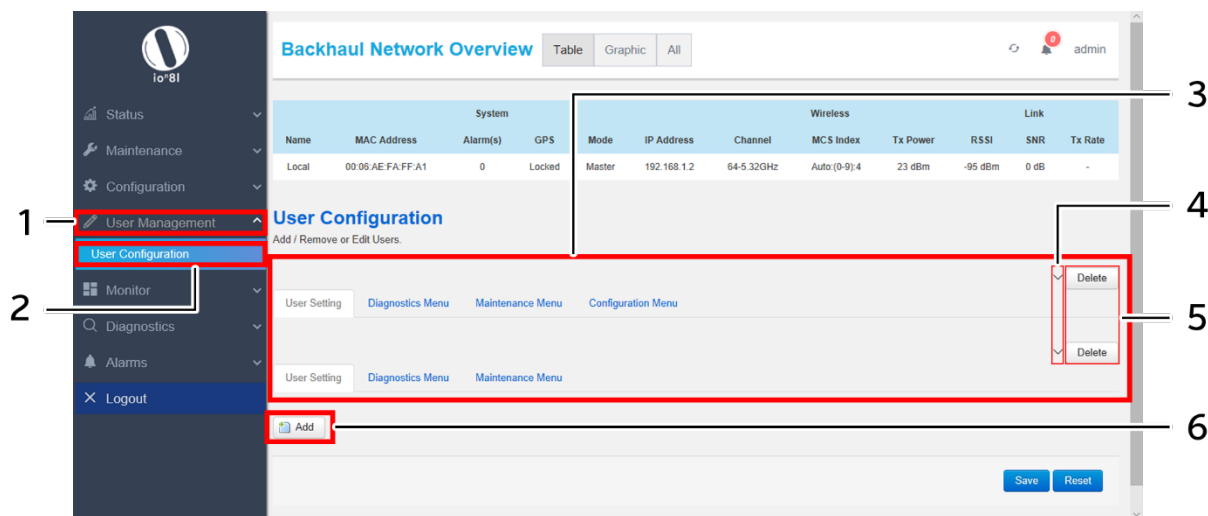

Figure 54: Basic overview of user configuration screen
Refer “Figure 54: Basic overview of user configuration screen” and click on “Add” option (6). A basic overview of the user management screen to add a new user with managed access to diagnostics, maintenance, and configuration screens is given below: